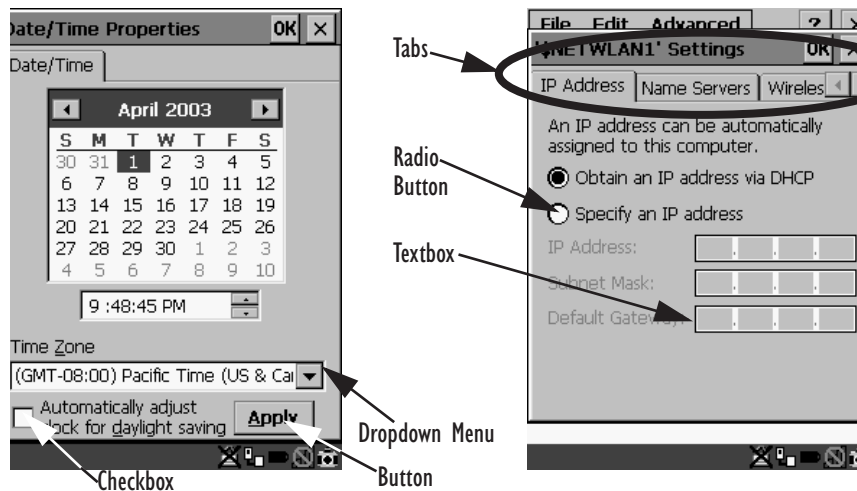

Figure 4.13 Dialogue Boxes
A dialogue box (like the samples in Figure 4.13) appears when you need to make selections and enter further information.
**Radio buttons:** These buttons allow you to choose from a number of options. For example, in the sample screen in Figure 4.13 on page 76 you can choose to 'Obtain an IP address via DHCP' or 'Specify an IP address'. Press the <TAB> key to highlight a radio button option, and then select a radio button by pressing the arrow keys to highlight the appropriate option.